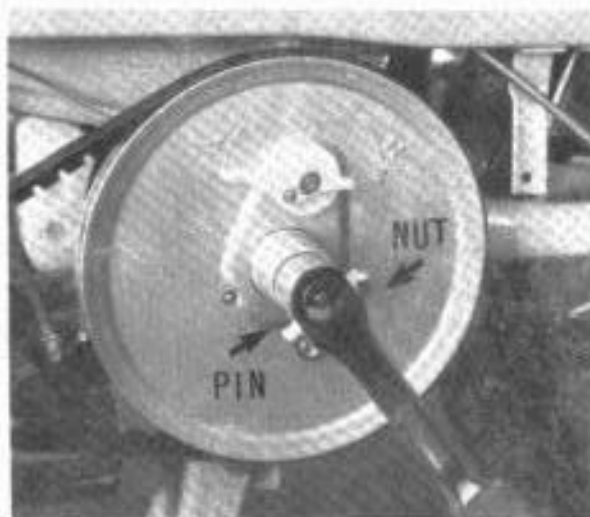

Fig. 23-1
- 3) When replacing the crank cotter pin rotate the pedal axle so the cutaway section faces to the rear, place the crank arm over the axle with it also facing the rear, see Fig. 23-1. Insert the cotter pin from the bottom with the flat portion lined up with the cutaway portion on the axle - put on the washer and nut and tap into place and tighten nut, rotate the axle so the crank is vertical and with a wrench on the nut with pressure applied strike the head of the cotter pin and take up the slack on the nut at the same time. Repeat this a few times until you feel the pin is in as far as it will go and the nut is tight. NEVER use excessive force when tightening the nut as this will weaken or strip the threads. NEVER drive the pin in with excess hammering. ALWAYS take up the slack on the cotter pin nut at the same time as you strike the cotter pin head.